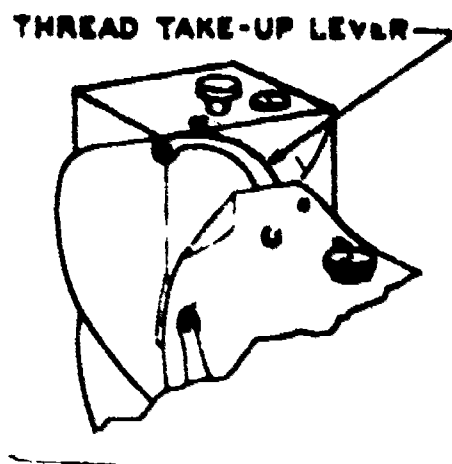

Figure 11. Thread Take-Up Lever at its Highest Position.
9. Remove the paper from the machine by raising the needle to the highest position and lifting the presser foot with knee lift lever or hand lever. When the needle is at its highest position, the thread take-up lever, figure 11, will be at its highest position.